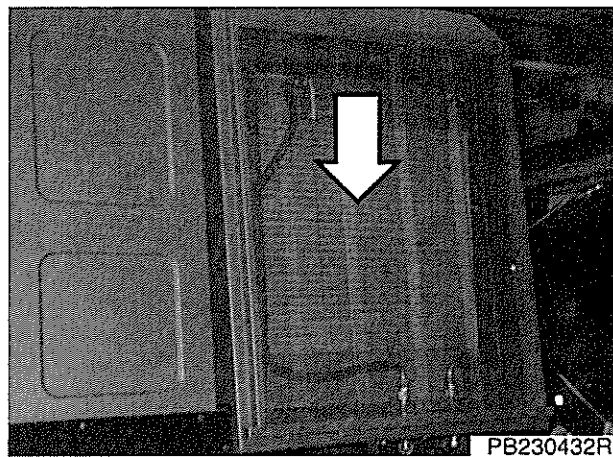

Fig 27 Clean the dirty radiator fins
66.3 Refer to Fig 27. Clean the dirty fins on the radiator (arrowed), intercooler and oil cooler. Remove the radiator screen if necessary, contact your Unit for assistance.